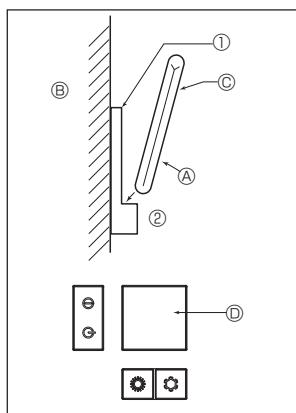
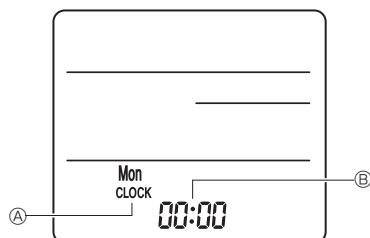

Fig. 7-9
Fig. 7-10
2) Installation method (Fig. 7-9)
① Remote controller ② Wall ③ Display panel ④ Receiver
3) Setting (Clock setting) (Fig. 7-10)